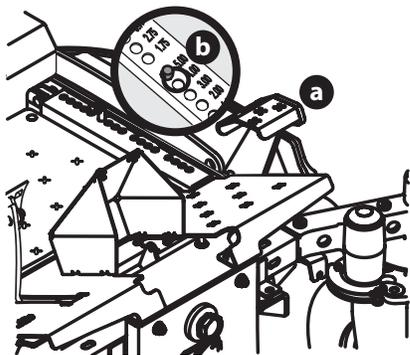

Figure 1
2. Use the deck lift pedal (a) to raise the deck to its highest position and secure in place with the clevis pin (b) attached to the mower (Figure 1).